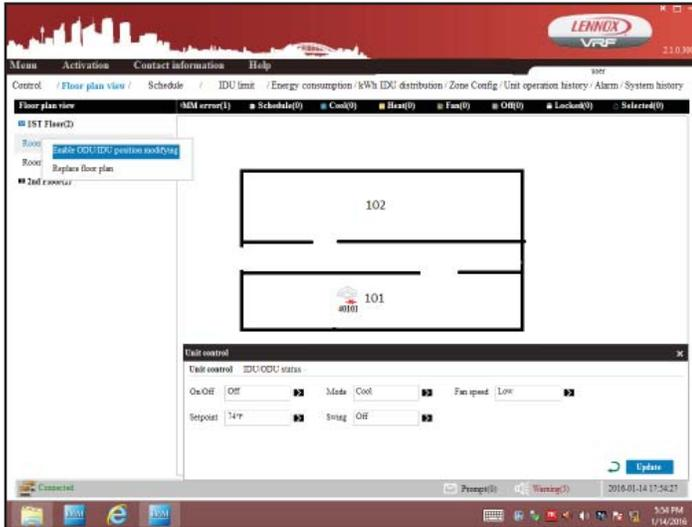

Figure 21. Enable IDU Positioning
1. Tap and hold the floor plan you want to change until a menu displays. See figure 21.